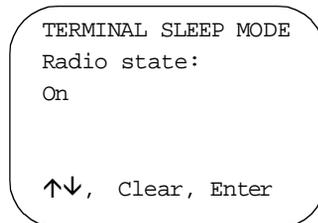

Figure E-8. Terminal Sleep Mode Screen
7. Select **Terminal Sleep Mode** from the main configuration menu. The *Terminal Sleep Mode* screen (Figure E-8) is displayed.